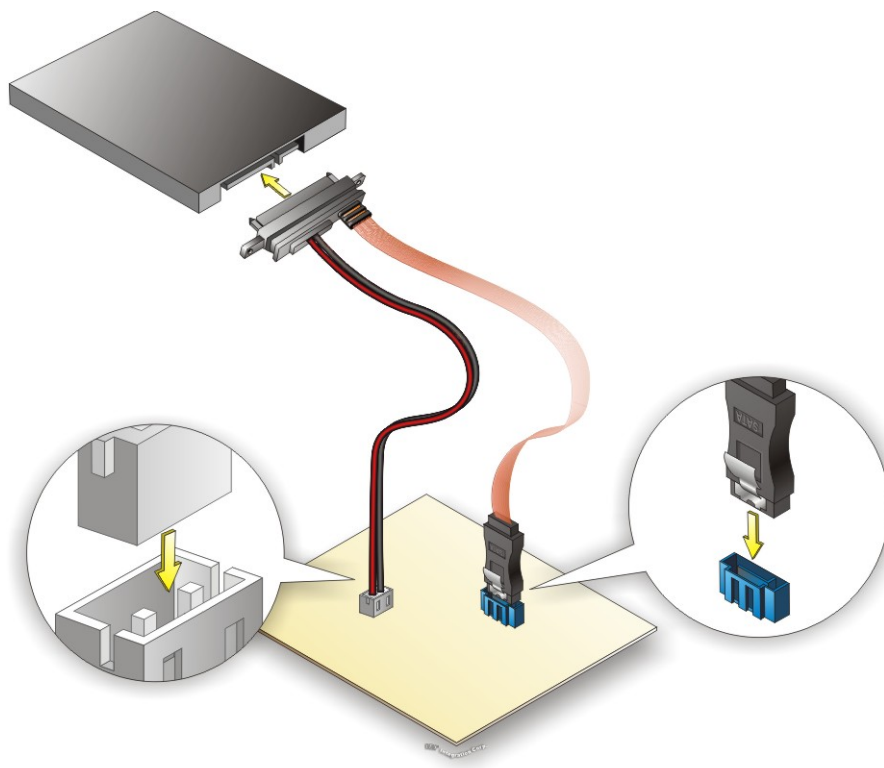

Figure 4-18: SATA Drive Cable Connection
Step 2: Insert the cable connector. Insert the cable connector into the on-board SATA drive connector and the SATA power connector. See **Figure 4-18**.
Step 3: **Connect the cable to the SATA disk.** Connect the connector on the other end of the cable to the connector at the back of the SATA drive. See **Figure 4-18**.